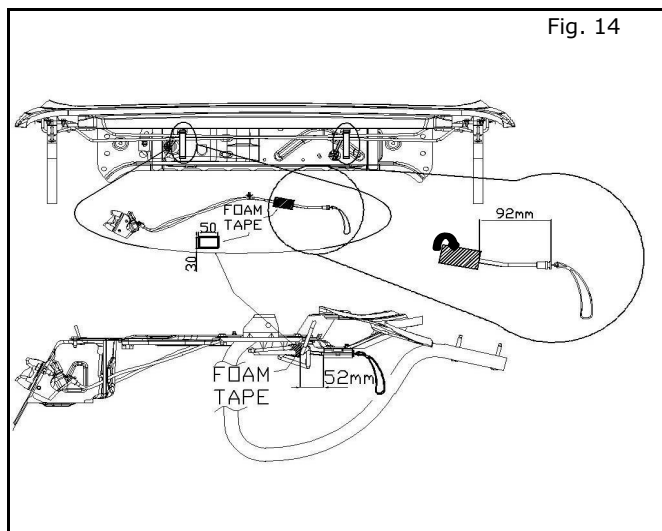

Fig. 14
- 8) Wrap 50X50 foam protector tape around rear seat latch release cable as shown in (Fig. 14). Starting 92mm from cable end or 52mm from cable holding bracket.